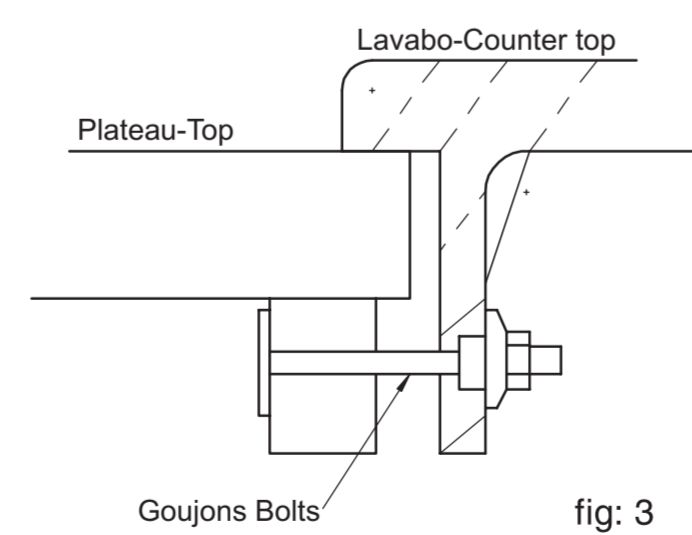

fig: 3
- Fix lavatory as shown in fig. 3 or 4